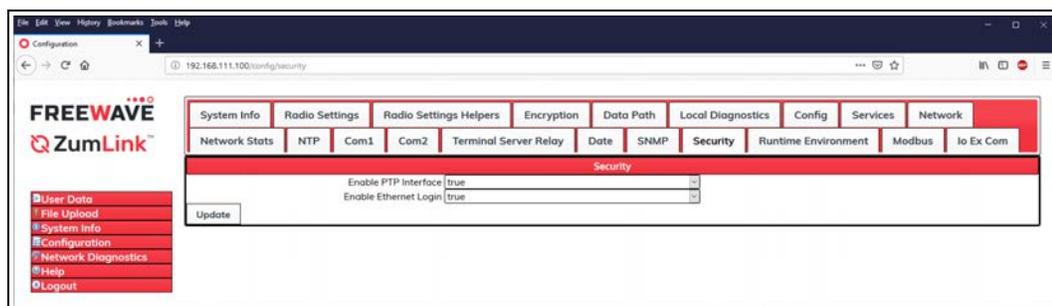

Figure 157: Security window
6. Click the **Security** tab to access the **Security** parameters. Figure 157